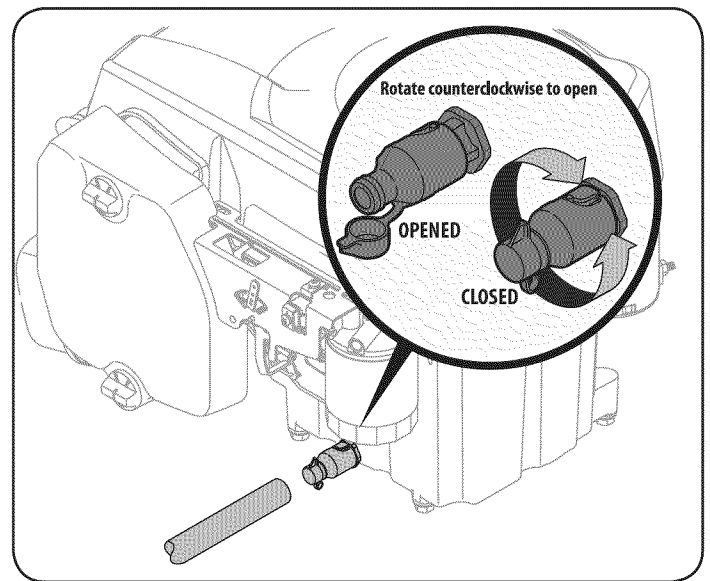

Figure 13
4. Pop open the protective cap on the end of the oil drain valve to expose the drain port. See inset of Figure 13.
7. The engine is equipped with a twist-and-pull drain port. Turn the oil drain valve ¼-turn, then pull outward to begin draining oil. After the oil has finished draining, push the end of the oil drain valve back in and turn ¼-turn to secure it back in place. Remove the oil drain hose and store for later use. Re-cap the end of the oil drain valve to keep debris from entering the drain port. See Figure 13.